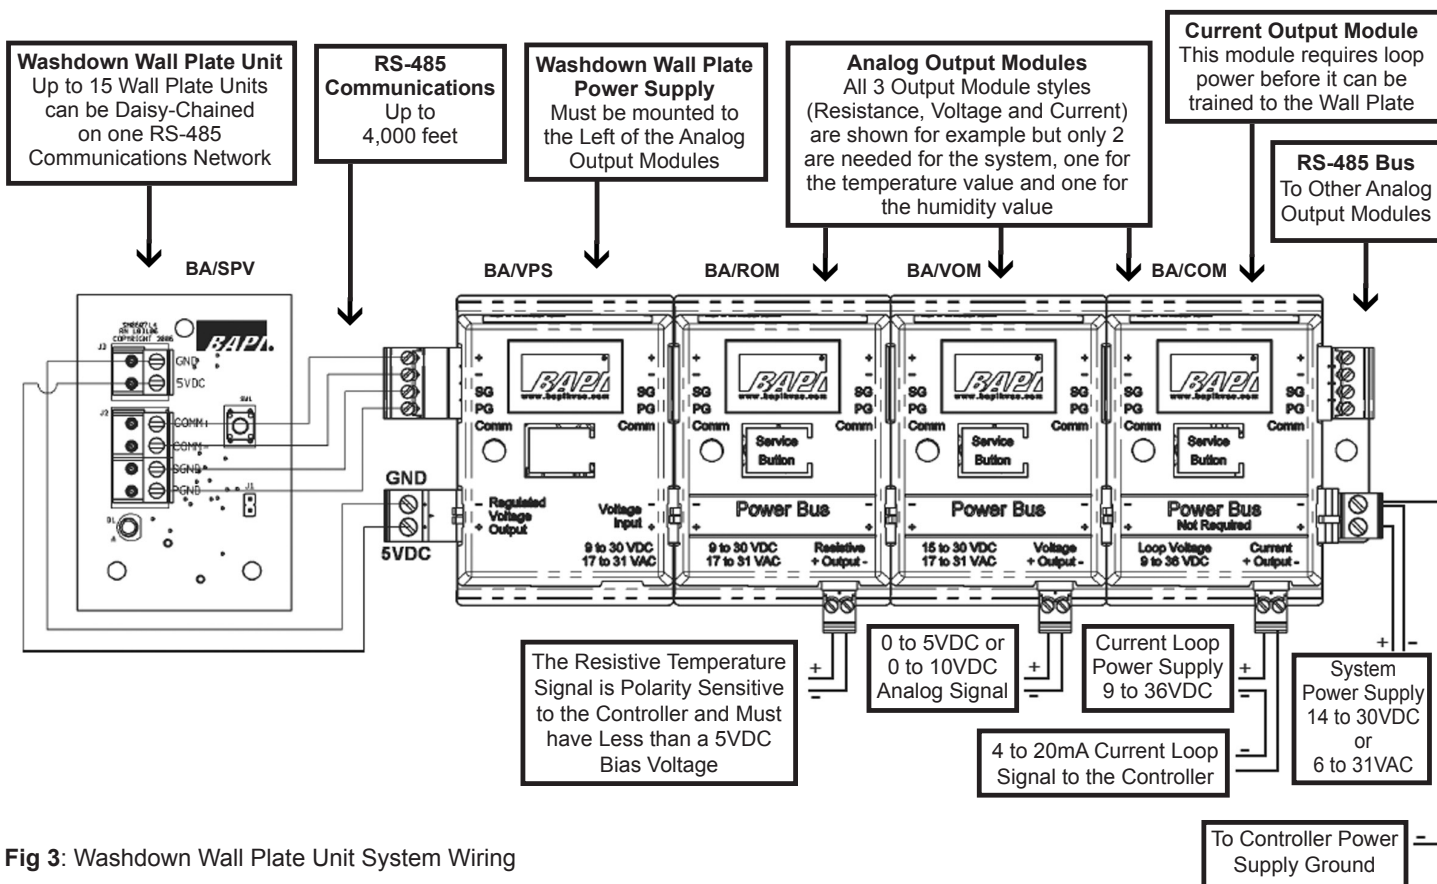

Fig 3: Washdown Wall Plate Unit System Wiring
- Note 2:** Wire the Washdown Wall Plate Unit to the Washdown Wall Plate Power Supply and Analog Output Modules as shown in Fig 3 above. All three Output Module styles (Resistance, Voltage and Current) are shown above for example but only two Output Modules are required for the system.
1. Connect the Washdown Wall Plate Unit to the Washdown Wall Plate Power Supply and plug in the Analog Output Modules to the Washdown Wall Plate Power Supply as shown in Fig. 3 on page 2.
2. Apply power to the Analog Output Module and Washdown Wall Plate Power Supply as shown in Fig. 3 on page 2.